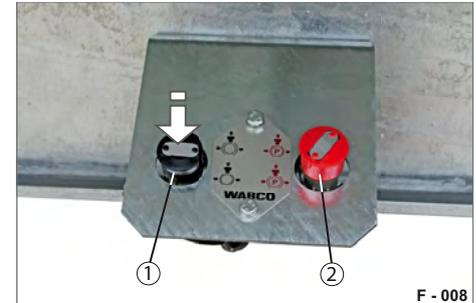

Fig. 11 Operating console
- ▶ Press the release valve (Fig. 11/1).
- ▶ Pull the release valve (Fig. 11/1).